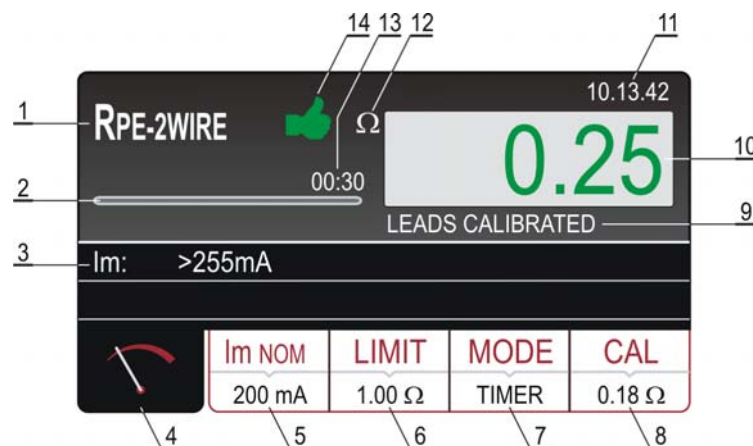

Figure 5: Display with RPE-2WIRE test result
- 8) Carry out the measurement by pressing the **START/STOP** button. Test result will currently be displayed in green (result lower than or equal to set limit value) or in red colour (result higher than set limit value). Final result will be equipped with green symbol and with beep-beep sound (result OK) or with red symbol and with longer beep sound (result not OK) or with yellow symbol and with beep-beep sound (result OK, but measurement current was too low). See the display outlook with test result on figure 5.